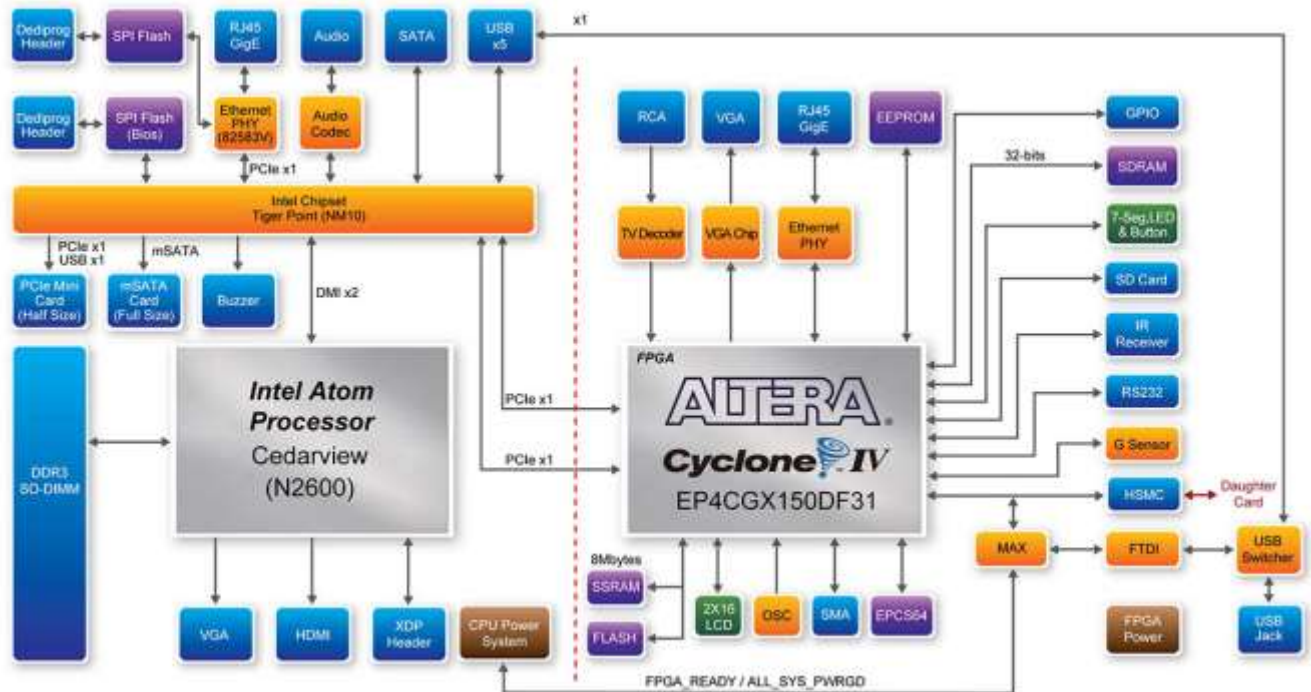

Figure 9. Block Diagram of the DE2i-150 FPGA Development Kit. There is a processor side and a FPGA side.
- This embedded platform fuses together the world of high-performance embedded processing (Intel Atom™ N2600 processor) with the flexibility of an Altera Cyclone IV GX FPGA. The Intel Atom™ processor and the FPGA device are linked together via two high-speed PCIe lanes. Fig. 9 depicts the block diagram. The components are: